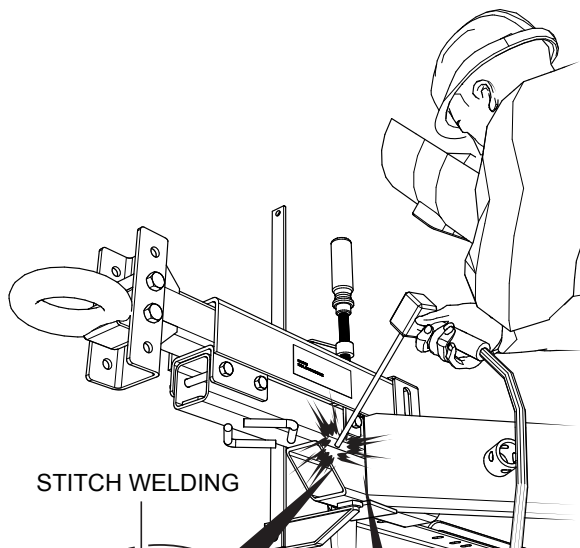

Figure 6. Welding Hitch Mount Brace
1. Weld hitch mount brace (Figure 6) onto trailer frame.